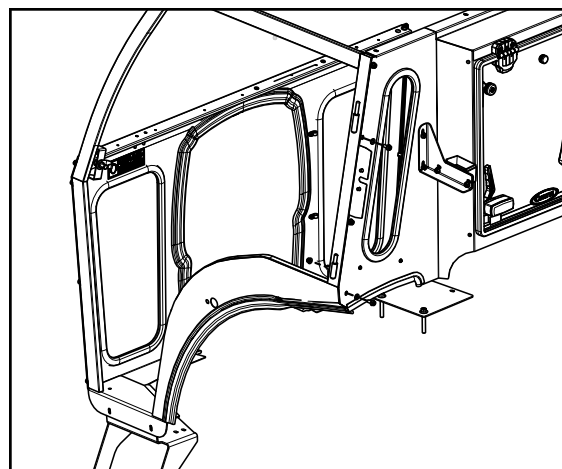

Fig. 6.4 (Left Side frame Installation)
6.4 Fasten remaining bolts, and washers, and nut to rear panel. See Fig. 6.4. Tighten hardware.